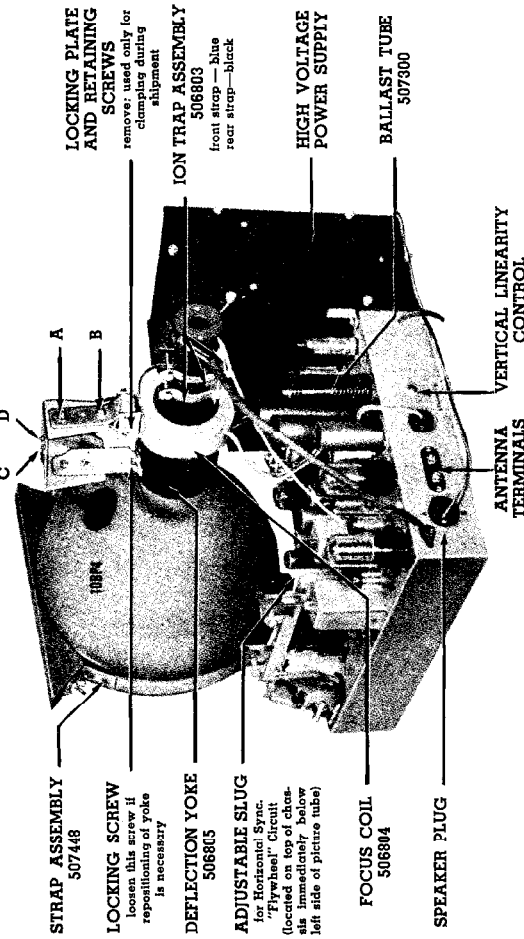

FIG. 4—MODEL AVTL CHASSIS AND KINESCOPE ASSEMBLY
If this control must be related to the end of its range for proper "locking" action, then it will be necessary to reset the position of an adjustable slug in the horizontal sync "flywheel" circuit (see Figures 4, and 11 for location of slug). Adjustment is accomplished by first setting the "Horizontal Hold" control in the middle of its range and then changing the setting of the "flywheel" circuit slug until picture locks in horizontally.
5. **ADJUST ION TRAP (Model AVTL Only)**—The ion trap is located on the neck of the picture tube as shown in Figure 4 and consists of two magnets held in position by metal bands. The magnet identified by the blue band must be in the forward position. Loosen the two clamp screws which secure the ion trap to the tube neck. Then rotate the entire trap assembly while sliding it back and forth until picture tube screen is illuminated to maximum brilliance. Reduce "Brightness" control setting and repeat this operation to assure accurate positioning of ion trap. If a semi-circular portion of the raster is shaded, it should be corrected as described in step 6.